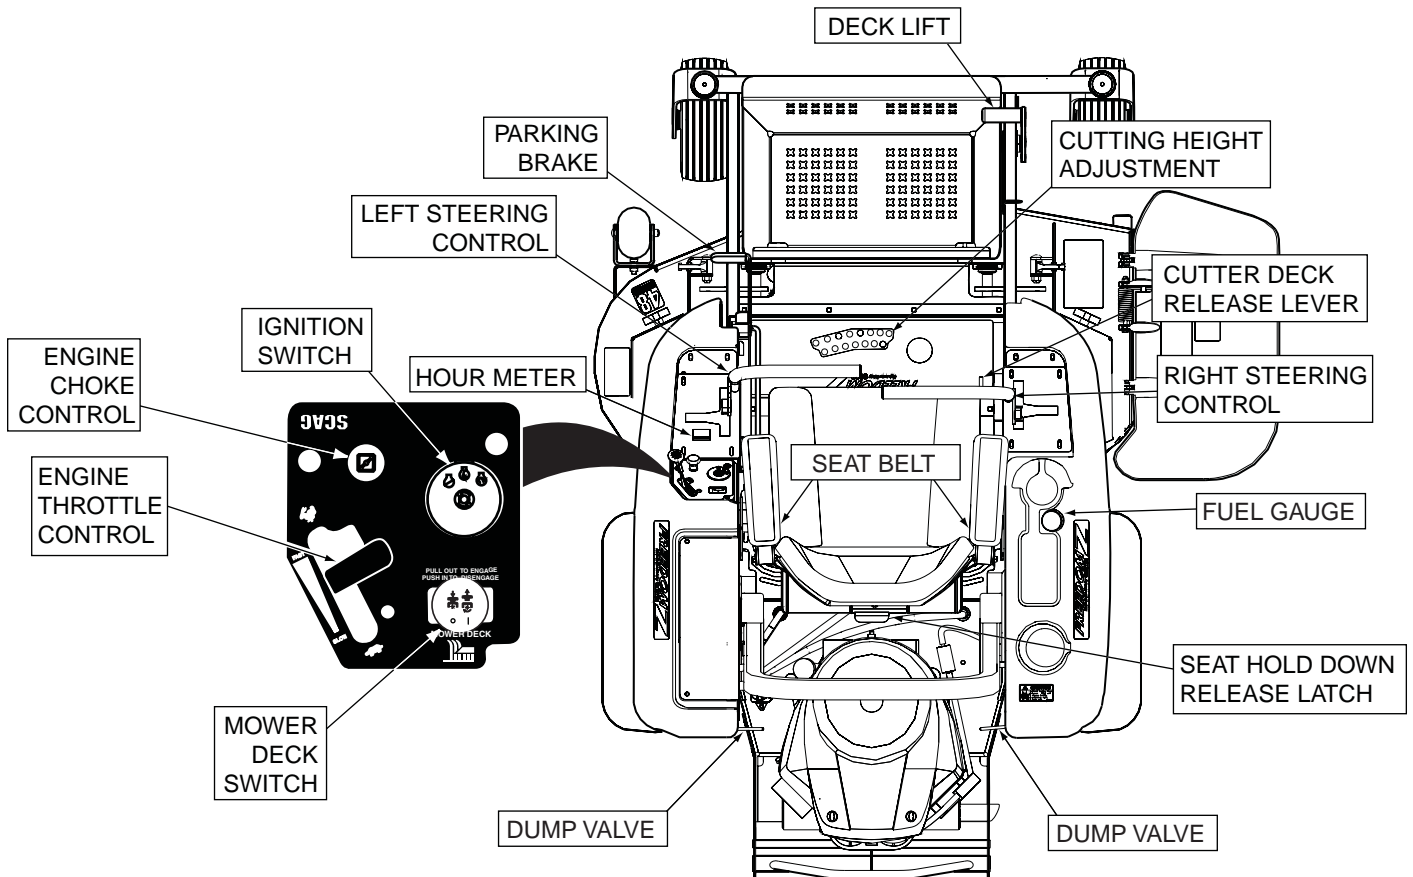

Figure 4-1 Controls and Instruments
1. **Ignition Switch (Figure 4-1).** Used to start the engine and has three positions; OFF, ON, and START.
2. **Mower Deck Switch (Figure 4-1).** Used to engage and disengage the mower drive system. Pulling up on the switch will engage the deck drive. Pushing down on the switch will disengage the deck drive.
3. **Engine Choke Control (Figure 4-1).** Used to start a cold engine.
4. **Engine Throttle Control (Figure 4-1).** Used to control the engine speed. Pulling the lever back decreases engine speed. Pushing the lever forward increases engine speed. Full forward position is the cutting position. Full back is the IDLE position.
5. **Fuel Gauge (Figure 4-1).** Indicates the amount of fuel in the fuel tank.
6. **Hourmeter (Figure 4-1).** Indicates the number of hours the engine has been operated. It operates whenever the ignition key switch is in the ON position. Has preset maintenance reminders for engine and hydraulic system oil changes. Will start flashing scheduled maintenance 2 hours before preset time and continue flashing until 2 hours after. Automatically resets.
7. **Fuse Holders (Figure 4-1).** Two 20-amp fuses protect the mower's electrical system. To replace fuses, pull fuse out of the socket and install a new fuse.
8. **Left Steering Control (Figure 4-1).** Used to control the mower's left wheel when traveling forward or reverse.
9. **Right Steering Control (Figure 4-1).** Used to control the mower's right wheel when traveling forward or reverse.
10. **Parking Brake Control (Figure 4-1).** Used to engage and disengage the parking brakes. Pull the lever back to engage the parking brakes. Push the lever forward to disengage the parking brakes.
12. **Deck Lift Foot Lever (Figure 4-1).** Used to raise and lower the cutter deck.
13. **Cutting Height Adjustment (Figure 4-1).** Used to set the cutter deck at the desired cutting height.
14. **Cutter Deck Release Lever (Figure 4-1).** Used to lock the cutter deck in the transport position. Push the foot pedal forward and pull back on the release lever to release the cutter deck for normal mowing.
15. **Seat Belt (Figure 4-1).** Used to secure the operator. Seat belt must be worn at all times during operation.
16. **Seat Hold Down Release Latch (Figure 4-1).** Located behind the seat. Used to secure the seat in the operators position. Release the latch to gain access under the seat.